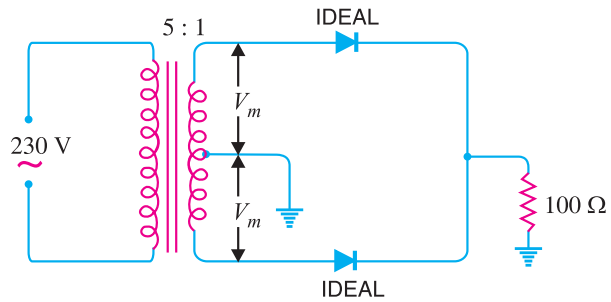

Fig. 6.31
**Example 6.17.** In the centre-tap circuit shown in Fig. 6.31, the diodes are assumed to be ideal i.e. having zero internal resistance. Find :